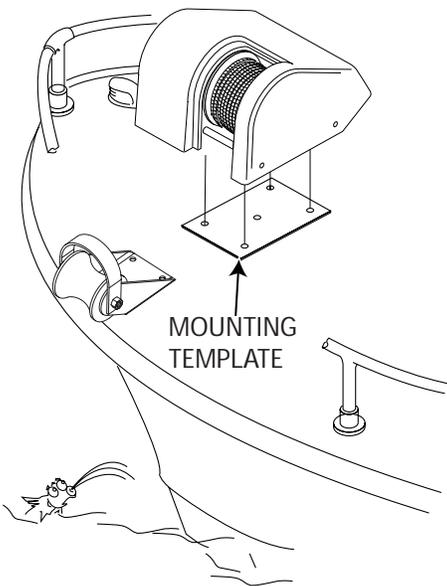

Figure 1. Pan Fisherman Mounting
The anchor winch can be mounted on the fore (front) or the aft (rear) of the boat. It is important that the supplied anchor roller line up with the centerline of the rope spool for proper operation. To mount the anchor winch, refer to Figure 1 and follow the procedures outlined below.
8. Spot and drill the holes as shown on the template. There are four mounting holes on the template. See Figure 1.